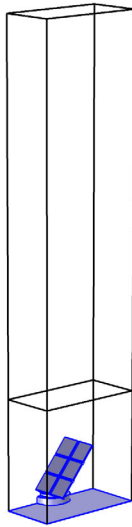

Figure 4: Computational box used in the fluid-flow simulation.
- I The fluid-flow geometry is defined tall enough to capture a boundary layer type flow reaching above the array of solar panels; see Figure 4. A mapped mesh is used in the solar panels, and the fluid domain is refined to resolve the flow field. The definition of the geometry and the mesh are very important for this model, but they are rather long